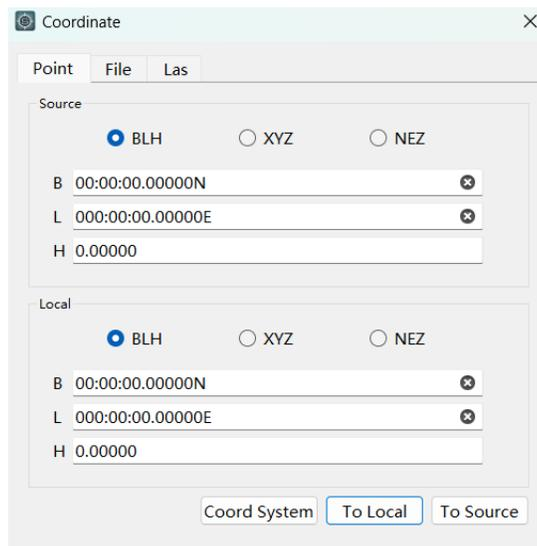

Figure 3-177 Transform Coordinate
- Click <Toolbox>→<Format Transform >→<Transform Coordinate> on the main interface, a dialog box will pop up (Figure 3-177).